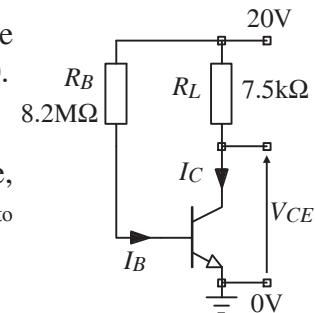

Figure 5
- (i) Evaluate I_B in figure 5. (2.35 μ A)
- (ii) Within what range of voltage will the collector voltage, V_{CE} , fall if a BC183 is used in the circuit of figure 5? (5V to 18.2V)
- (iii) Why is the circuit of figure 5 a poor bias circuit?